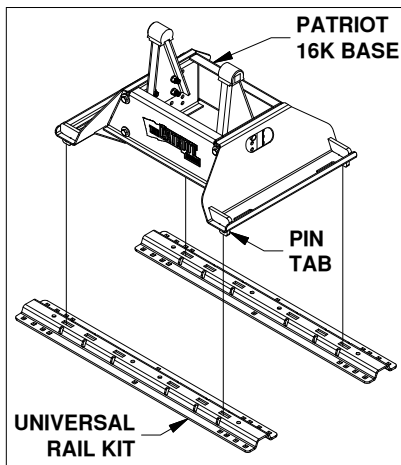

Figure B1: Rail attachment.
- Place base.** The base will mount to a rail kit in the truck bed. Remove any debris and/or obstructions from the bed. Position the base over the rail attachment points. Carefully lower it until the pin tabs pass through the attachment points and the base rests flat against the top of the rails, see Figure B1.